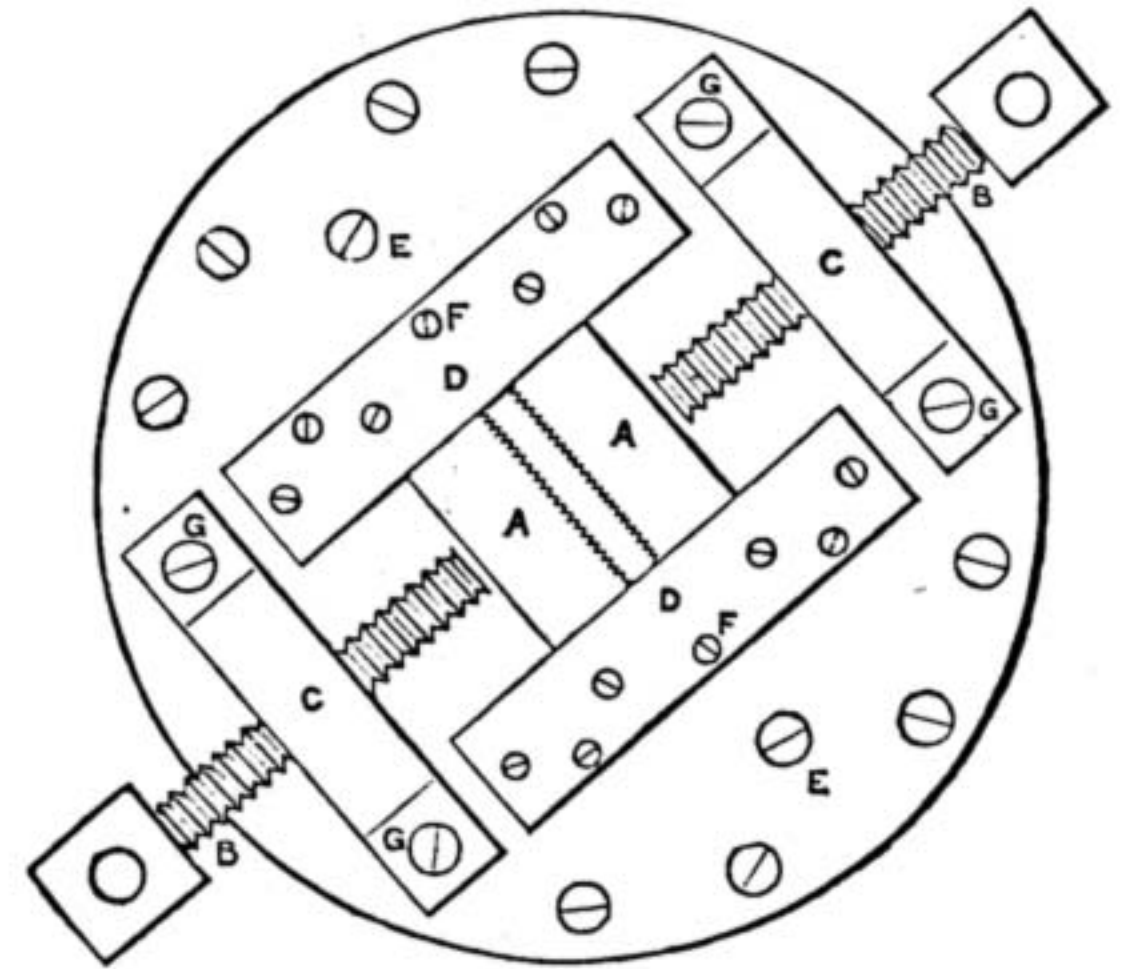

Fig. 1.—Die Chuck, One-fourth Size, Complete.
**Die Chuck.**—H. J. N. (Malvern Wells) writes:—"I have had your first issue of WORK, and I think it a very useful book for amateurs, etc.; they can see the issue of tools, machines, etc., and it also gives good instruction. Your dog chuck which you have illustrated is very useful and simple. I have much pleasure in submitting a method of making a die chuck, and I should be pleased for you to put it into WORK, if you think it worth doing so. The method I propose is to get a disc of hard wood, oak, elm, mahogany, or beech, and turn it down in the lathe to about 8 in. diameter. To make it screw firm on the nose of mandrel, it is best to get a piece of iron of suitable size square in shape, and drill it in each corner, and countersink for screws, then let the plate in flush at the back of wood disc, and screw it tight home with four short wood screws, having first tapped it to size of nose; this ought to hold it firmly, if the plate let in be of sufficient thickness to allow three or four good threads being cut. Now, to proceed with the chuck, go to a blacksmith's and get a disc of iron 1/4 in. thick and just over 8 in. in diameter cut; the reason for having it a little over the size of wood disc is to allow for it being turned down to same size. Get it drilled, as marked in Fig 1, and countersunk for head of wood, screws to lie flush with surface. Now get two pieces of V-shaped iron about 6 in. long, or if not obtainable get flat, and file carefully up to shape shown in Fig. 2, which is an end view of chuck, showing V irons fastened on. If you have a large-size old square file, put it in the fire and get it to a full red, and put it on the ground to cool. When cool, cut off two pieces the same length and size, and file up clean and smooth; these are to be the dies. If you have fastened V irons on the face plate as they should be, that is, an equal distance apart from the centre of face plate, and parallel to each other, you can file your pieces of old square file to fit. They should fit tight, but also slide between V bars without binding. The shape they should be filed to I have shown at A, Fig. 2. The V-shaped irons should be drilled for screws to fasten them